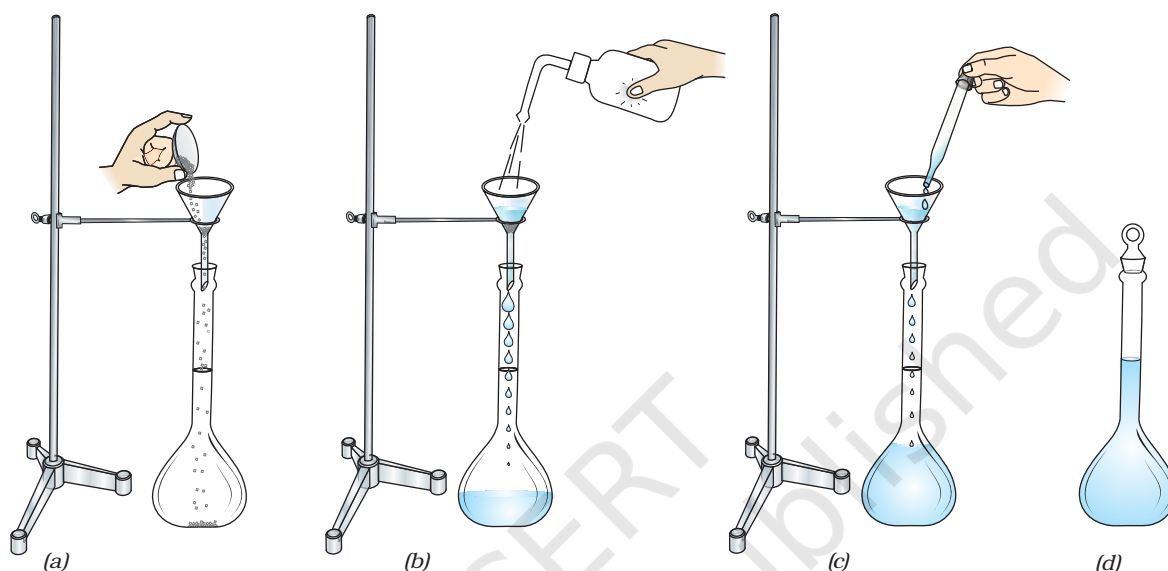

Fig. 2.27 : Making standard a solution
- (iii) Transfer oxalic acid carefully from the watch glass/weighing tube into a clean and dry measuring flask using a funnel. Weigh the empty watch glass again (Weight 3) and find out the mass of oxalic acid transferred to the measuring flask by subtracting this mass (Weight 3) from the combined mass of watch glass and oxalic acid (Weight 2). Calculate the exact molarity of solution from this mass. Wash funnel several times with distilled water by using a wash bottle to transfer the sticking particles if any into the measuring flask. While washing the funnel, add water in small amounts so that its volume in the flask does not exceed th of the volume of the measuring flask as shown in Fig. 2.27 a, b.
- (iv) Swirl the measuring flask till solid oxalic acid is completely dissolved. Add more distilled water with shaking. Make up the volume with distilled water to the etched mark by adding last few mL dropwise. Stopper the flask and shake it thoroughly to make the solution uniform throughout (Fig. 2.27 c, d). Label it as 0.1 M oxalic acid solution.